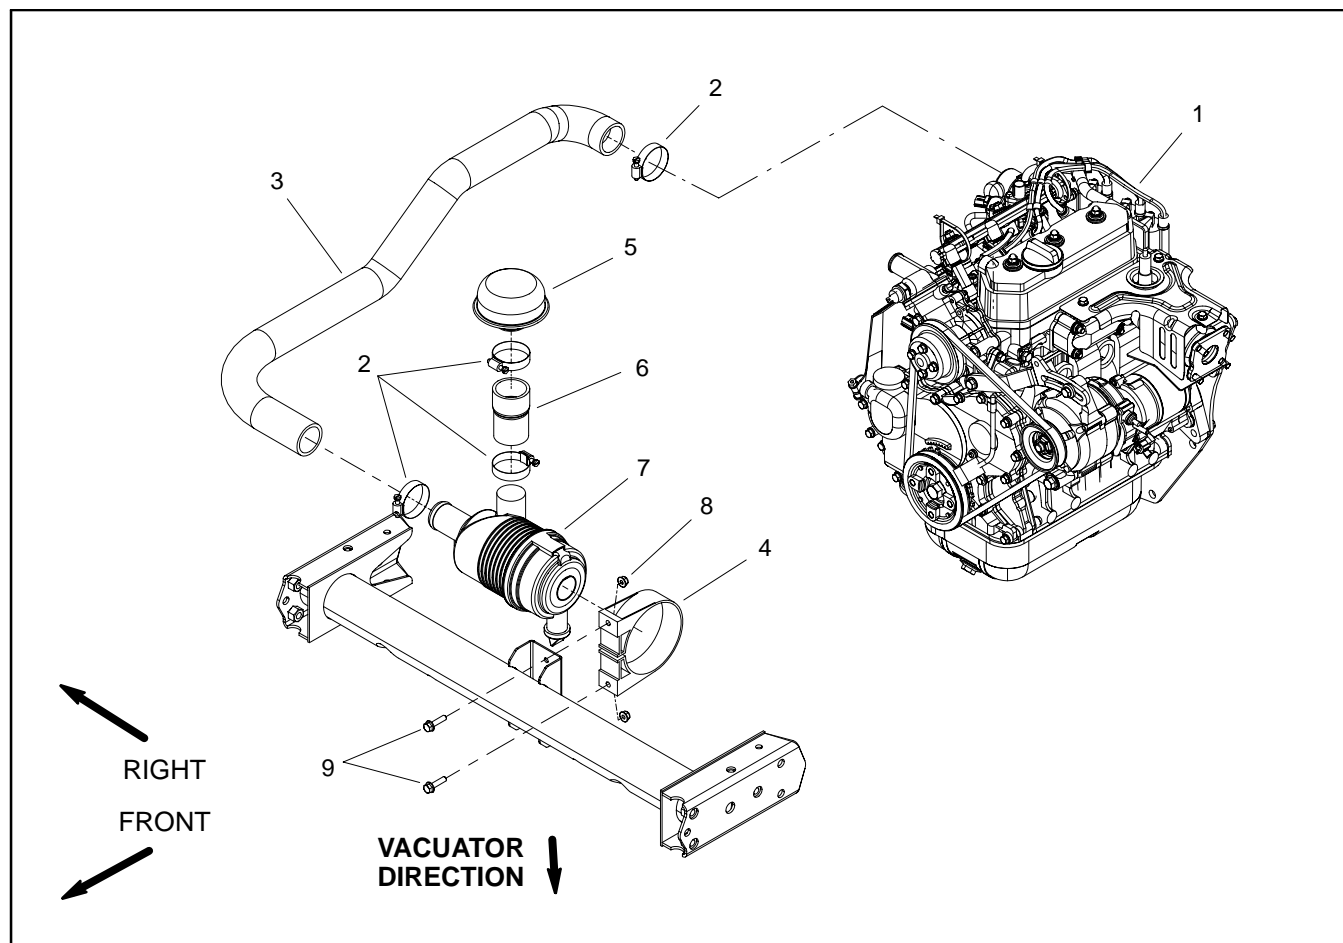

Figure 6
Removal (Fig. 6)
3. Remove air cleaner components as needed using Figures 6 and 7 as guides.
Installation (Fig. 6)
1. Assemble air cleaner system using Figures 6 and 7 as guides. Air cleaner hose (item 6) and air inlet hood (item 5) should be positioned straight upward. The vacuator valve on the air cleaner assembly should be positioned downward.